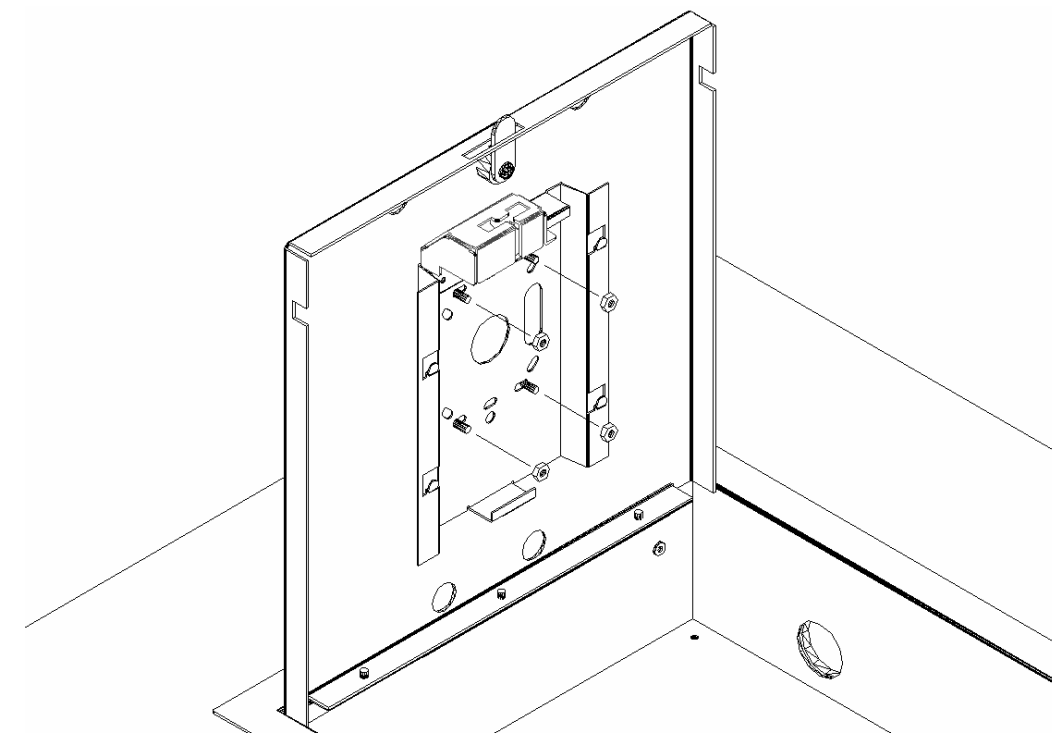

Figure 5 - 1038B mounting plate installation.
Step 4 – Turn the enclosure/ceiling tile assembly over, unlock and open the door. To install the mounting plate, place the mounting plate inside the enclosure so that the mounting plate holes align with the threaded studs and the Ethernet cover plate is located facing the door lock (ref. *Figure 5*). Use (4) #8-32 nuts to attach the mounting plate.